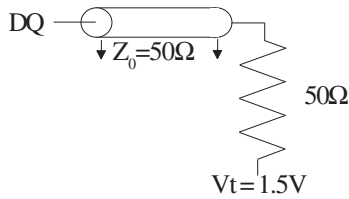

Fig. 1 3.3V I/O OUTPUT LOAD EQUIVALENT
1. Test conditions as specified with the output loading shown in Figure 1 unless otherwise noted.
Output load.....	See Figures 1 and 2